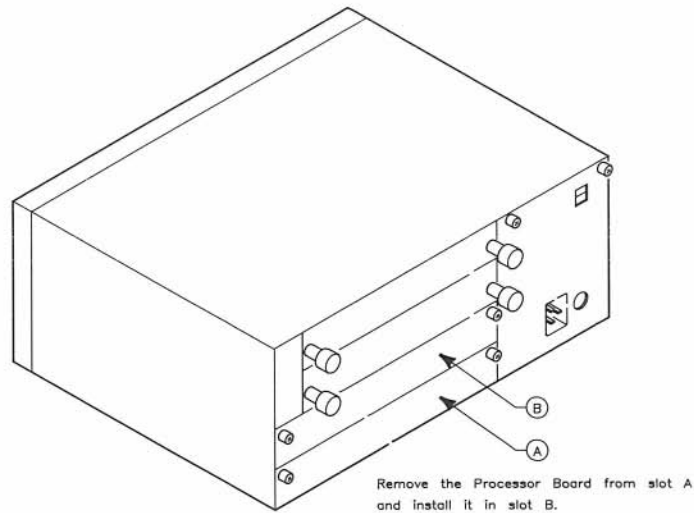

Figure 5-20. Processor Board Placement
- b. Remove the top wide slot cover plate from the back of the computer (see Figure 5-20).